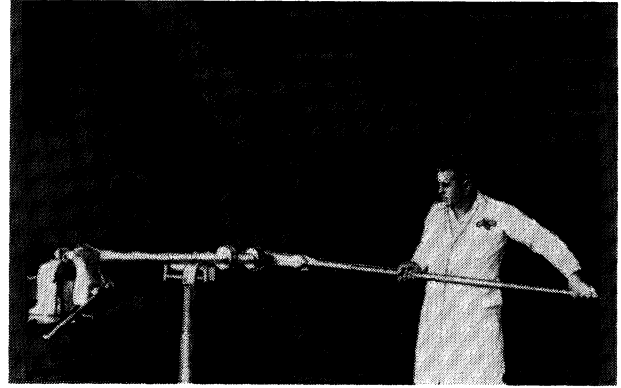

Figure 14. Removing Piston Bolt
3. Secure piston rod in a vise as shown in Figure 14 and remove the piston bolt. See Specifications for torque values.